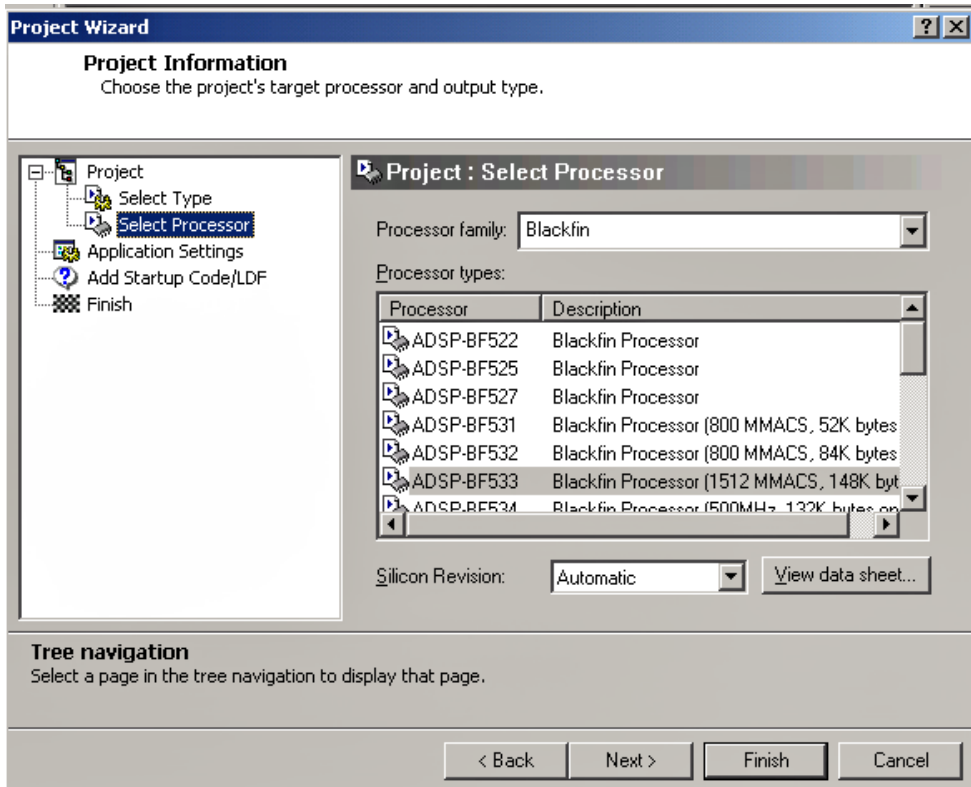

Figure 2-7. Session Wizard
- When you need to connect to a debug session, click the **Connect to Target** toolbar button () or choose from the available sessions listed under **Select Session** in the **Session** menu. To create a debug session, select **New Session** from the **Session** menu. This will launch the **Session Wizard**, which is covered in more detail later. See Figure 2-7 on page 2-10.
Click **OK** to create a new session. This will launch the **Session Wizard**, shown in Figure 2-7.